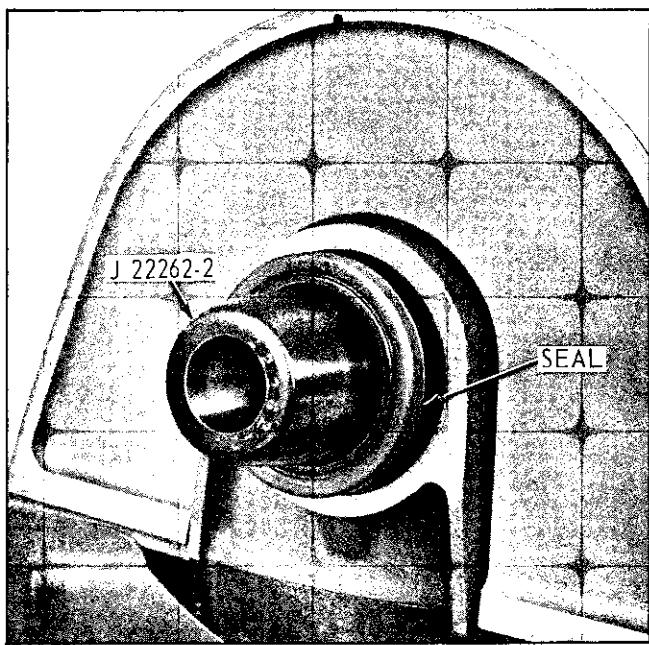

Fig. 6-14 Installing Camshaft Seal
3. Position camshaft seal on pilot J 22262-2 (Fig. 6-14).
4. Drive seal into position using J 22261-1 seal installer (Fig. 6-14).